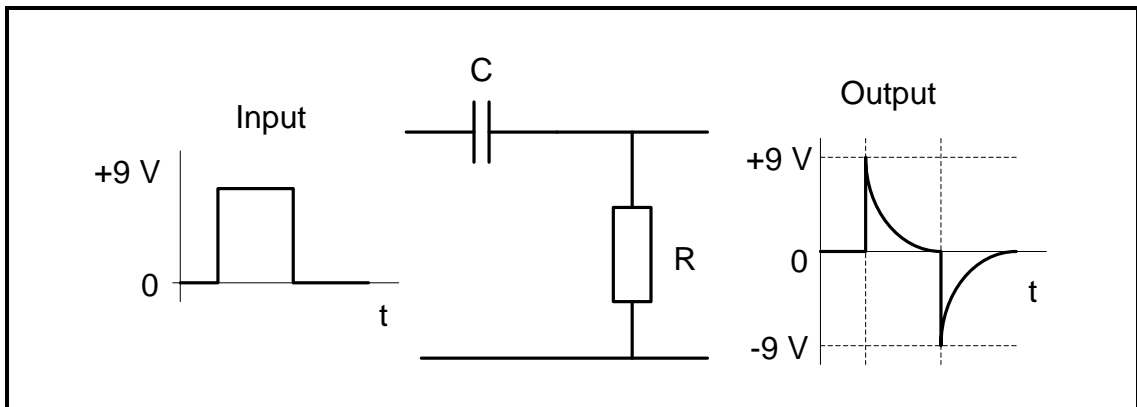

FIGURE 2.7: PASSIVE RC DIFFERENTIATOR
2.7 Explain the operation of the passive RC differentiator in FIGURE 2.7 below.